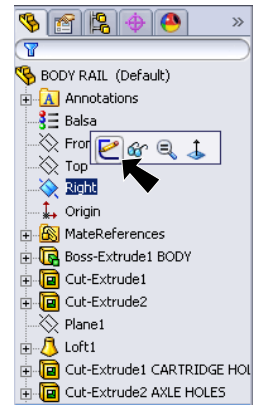

Fig. 74
Step 1. Click **Right**  (plane) in the Feature Manager and click **Sketch**  from the Content toolbar, **Fig. 74**.